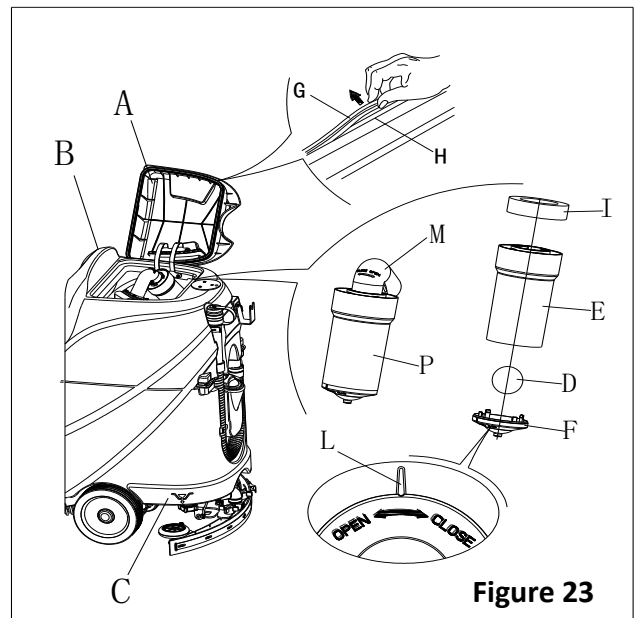

Figure 23
2. Ensure that the machine is off and the ignition key (40) has been removed.
3. Turn the recovery tank lid (A, Figure 23) 90 degree position where it can be taken off from the tank, and then take down the float ball filter (P) from the tank.
4. Clean the recovery tank lid (A), recovery tank (B), clean water tank (C) and the float ball filter support frame (E). Empty the recovery tank with the drain hose (15).
5. If necessary, follow the symbols "OPEN" and "CLOSE" as shown in Figure 23 to open the bottom cover (F) of float ball filter and then clean the float ball (D), filter support frame (E) and filter sponge (I). After cleaning, fix the float ball (D) into the filter support frame (E) and then align the mark groove (L) of the bottom cap (F) of the float ball filter with the mark groove (L) of the float filter support frame (E). Screw the bottom cap of the float ball filter tight, and fix the filter sponge (I) onto the float filter support frame (E). Finally, connect it to the sewage suction hose (M).
6. Inspect the integrity of the tank sealing strip (G).
7. Check whether the contact surface of sealing strip (G) is integrity and sealing is sufficient. If necessary, take the sealing strip of the tank out of the groove (H) and replace it. Assemble the new sealing strip as shown in Figure 23, the joint should be back in the middle area.
8. Close the recovery tank lid (A).